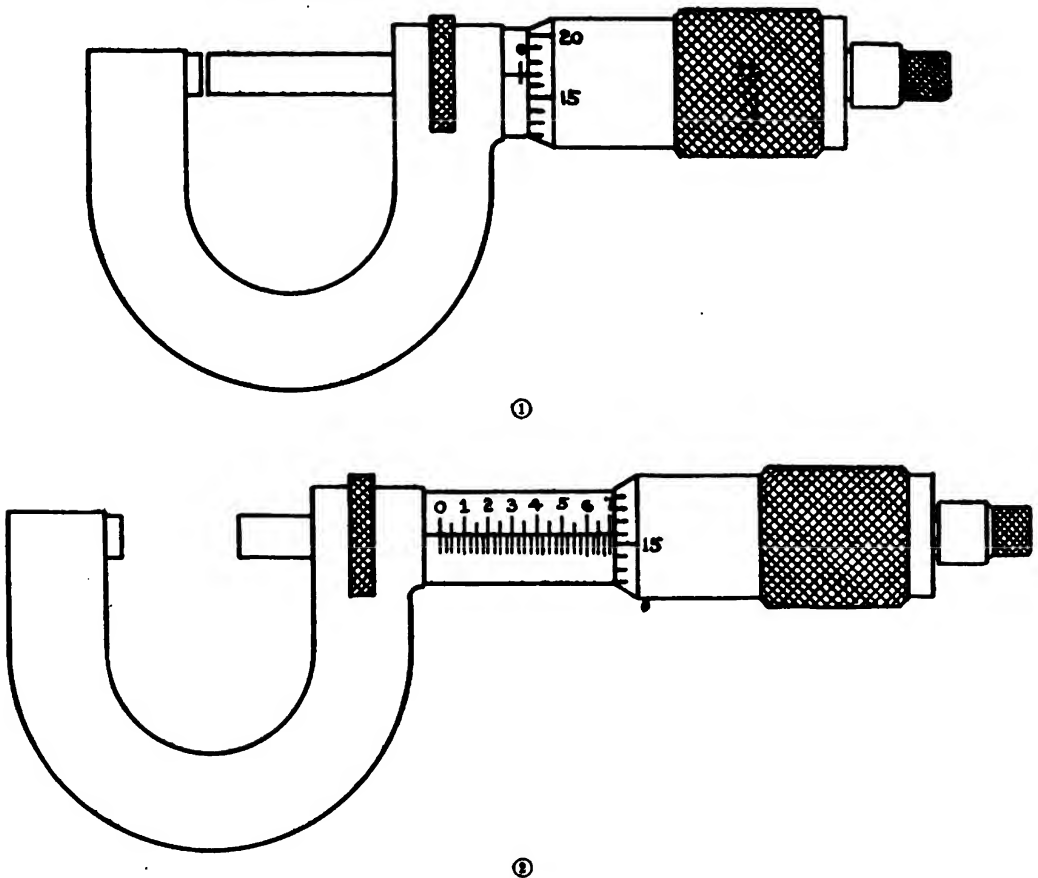

FIGURE 26.—Micrometers.
(2) *Micrometer caliper*.—The micrometer caliper is made in various styles and sizes depending upon the purpose for which it is to be used. The most common types are the outside, the inside, and the outside thread micrometers. This tool is used where close precision is required, as it is capable of taking measurements to within .001 inch, and where a vernier is employed, to .0001 inch. All types of micrometer calipers are similar in principle, and instructions in the use of only the outside type will be given herein, as it is the type which is most generally used. It consists of a frame, the anvil, or fixed measuring point, the spindle which has a thread cut 40 to the inch on the portion inside the sleeve or barrel, and the thimble which goes outside the sleeve and turns the spindle. One turn of the screw moves the spindle  $\frac{1}{40}$  inch or 0.025 inch and the marks on the sleeve show the number of turns the screw is moved. Every fourth graduation is marked 1, 2, 3, etc., representing tenths of an inch, or as each mark is 0.025 inch, the first four mean  $0.025 \times 4$  equals 0.100 inch, the third means  $0.025 \times 4 \times 3$  equals 0.300 inch. The thimble has a beveled edge divided into 25 parts and numbered 0, 5, 10, 15, 20 and to 0 again. Each of these mean  $\frac{1}{25}$  of a turn or  $\frac{1}{25}$  of  $\frac{1}{40}$  equals  $\frac{1}{1000}$  (0.001) inch. To read, multiply the marks on the barrel by 25 and add the graduations on the edge of the thimble. Figure 26① shows the micrometer adjusted to measure the thickness of a transformer lamination. The reading is 0.017 inch. Figure 26② shows a micrometer set to 0.716 inch.